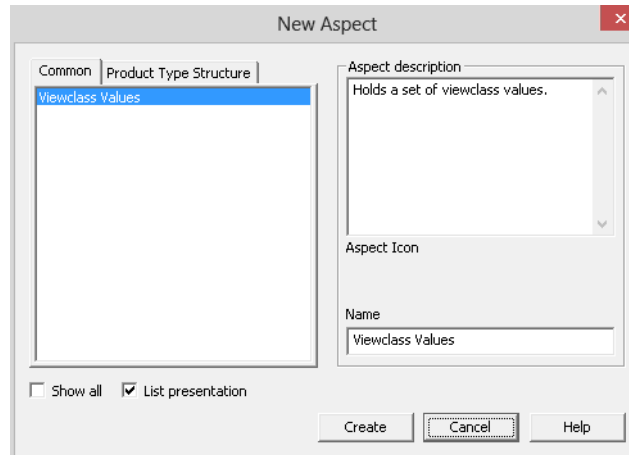

Figure 73. New Aspect - Main View
3. Create a new aspect of the ViewClass Values category. Give it the **same name** as the view (**Main View**), see Figure 73.
7. In the View Class Reference dialog box, select the object in **Select View Class**. For example, select **ABB System** where the Viewclass Values aspect is created (see Figure 73).